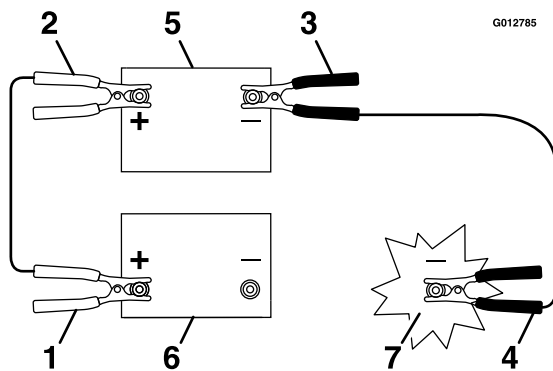

Figure 74
3. Connect the clamp positive (+) jumper cable to the positive (+) terminal of the discharged battery as shown in Figure 74.